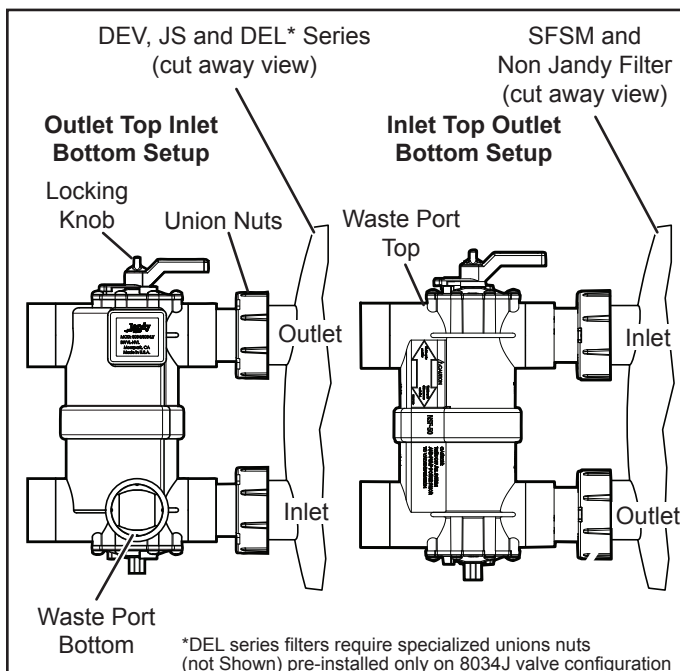

Figure 1. Handle Positions (DE and Sand)
6. Holding the valve in the correct orientation, place onto the filter ports. See Figure 1.
- Loosen and remove the locking knob and valve handle. See figure 1.